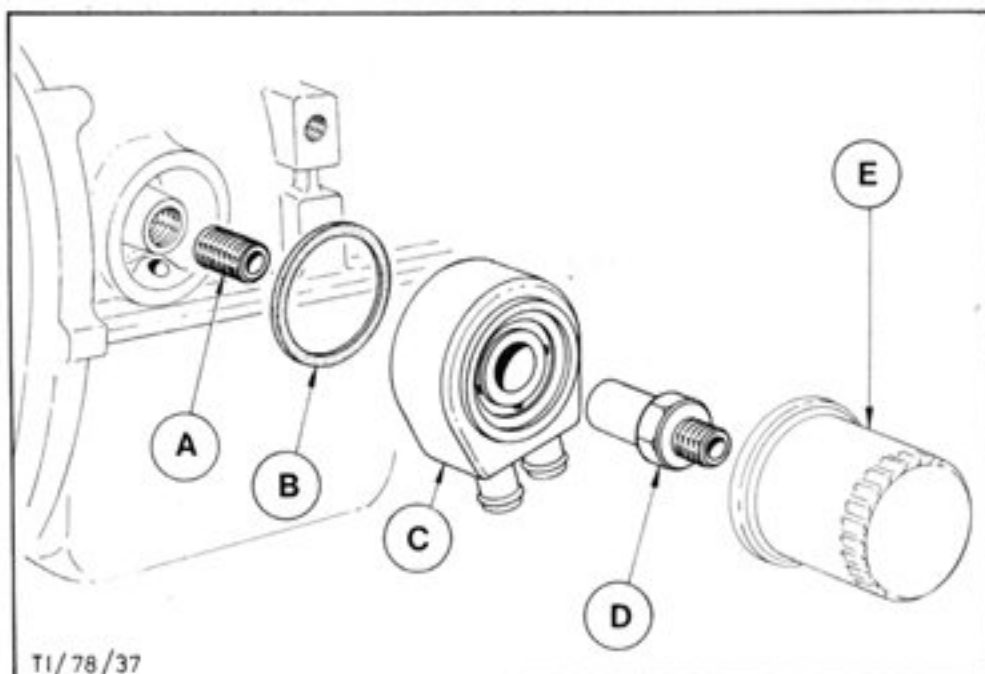
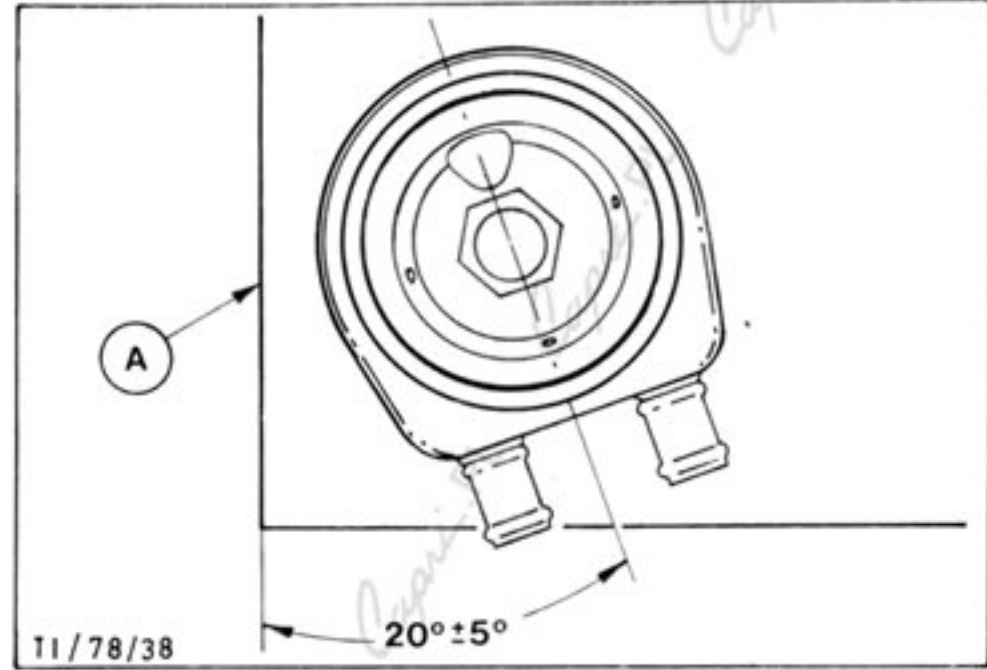

Fig.72. Component parts of oil cooler and main oil filter.
Fig. 73 Mounting position of the oil cooler.
- a) Screw new threaded bush, 'A' in Fig.72, into the cylinder block.
- b) Apply Omnifit Activator, 'Rapid', as per Ford specification SSM-4G-9003-AA, to the threads of the bush 'A' in Fig.72 and inside the new threaded sleeve 'D' in Fig.72.
d) Fit new seal ring "B" in Fig.72 and oil cooler "C" in Fig.72, and fasten with threaded sleeve "D" in Fig.72. When tightening the sleeve with the specified torque, ensure that the oil cooler is correctly positioned in relation to the vertical rear edge of the cylinder block, Fig.73.